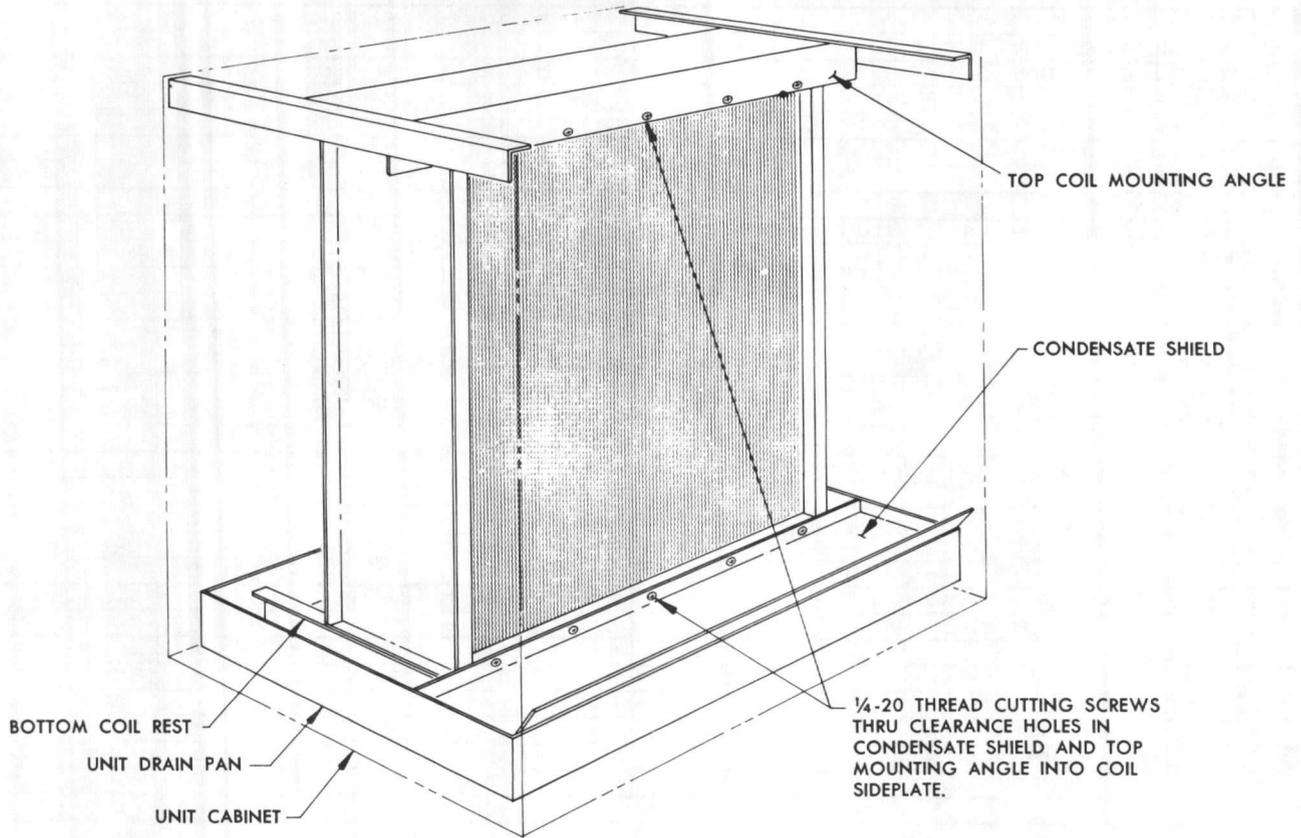

FIGURE 27
2. Models LML/MMM-106 thru 111 (Figure 27).